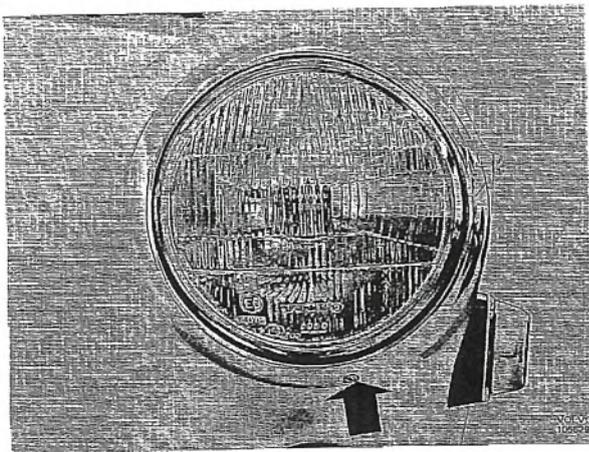

Fig. 3-82. Removing headlight rim
1. Remove the screw for the headlight rim (Fig. 3-82). Lift off the rim by moving its lower section outwards and upwards.